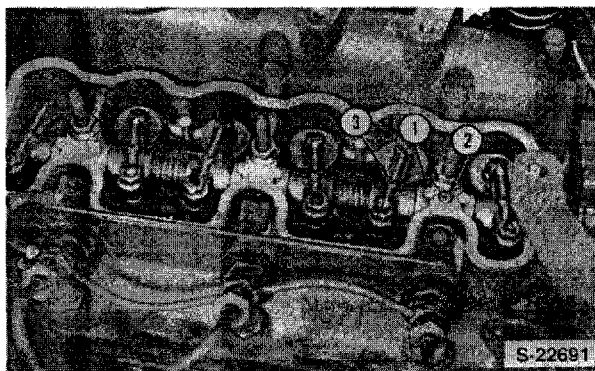

Figure 10
14. Remove the valve cover assembly, Figure 10.